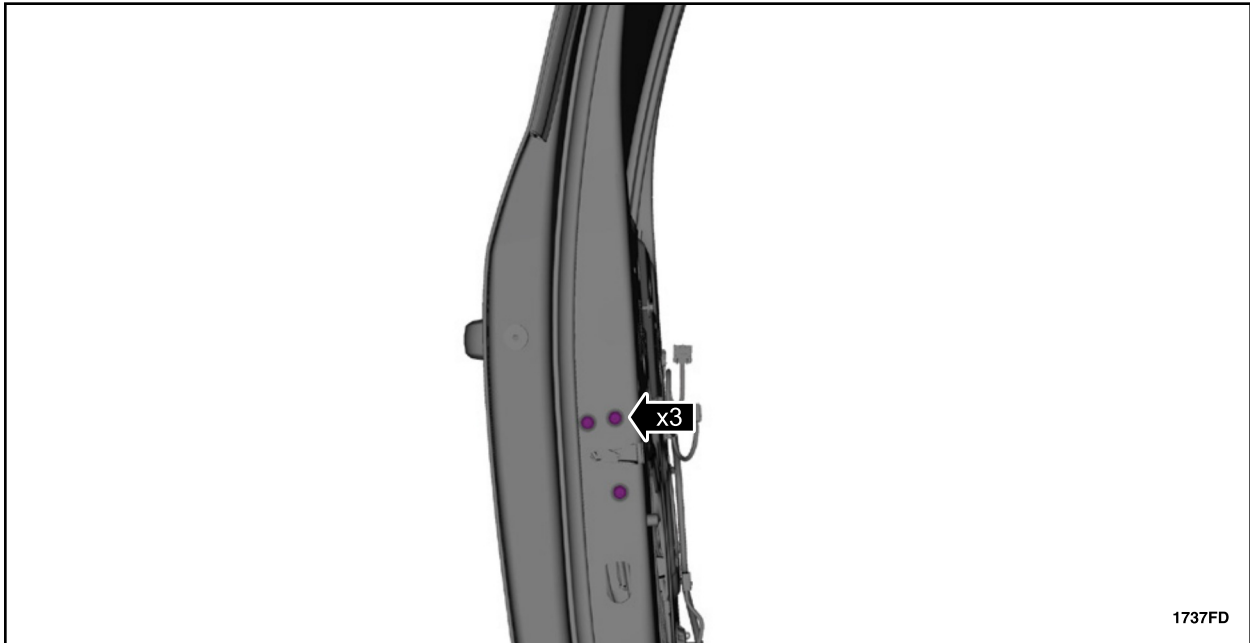

FIGURE 38
10. Remove the rear door latch retainers. See Figure 38.
22. Install the rear door latch retainers. See Figure 38.